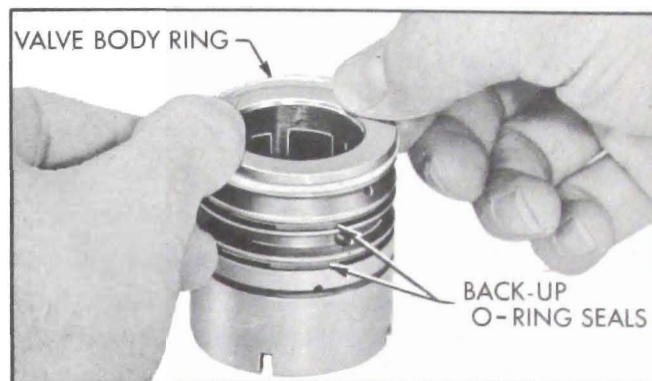

Figure 8-38—Installing Valve Body Rings
1. If removed from valve body, lubricate three new ring back-up O-ring seals in automatic transmission oil and assemble in the three ring grooves on the valve body. Do not allow the seals to become twisted. Assemble three new valve body rings in the ring grooves over the O-ring seals by carefully slipping over the valve body. See Figure 8-38.